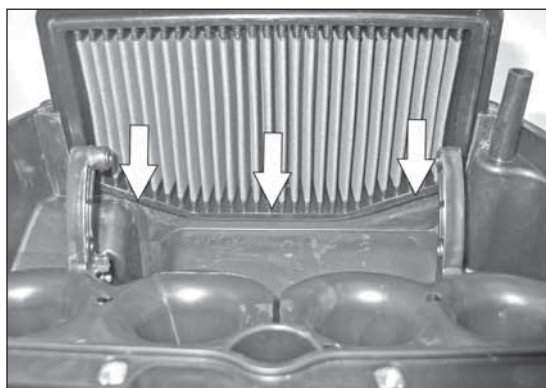

Fig. 3
4. Make sure the K&N® air filter is completely seated into the channel of the air box. (Fig. 3)